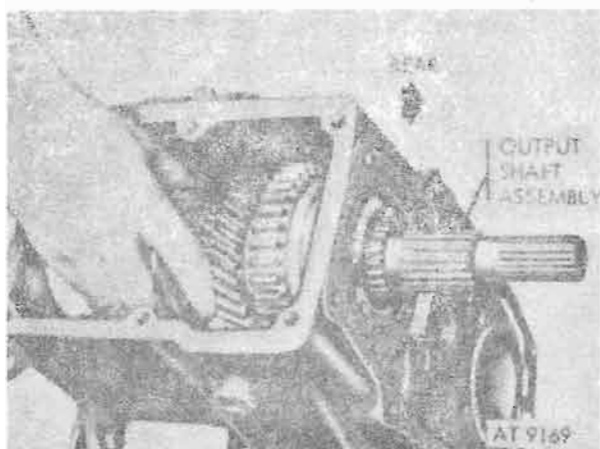

Figure 8-36. Removing output shaft assembly.
- i. Slide output shaft assembly rearward and lift from transmission case (fig. 8-36).